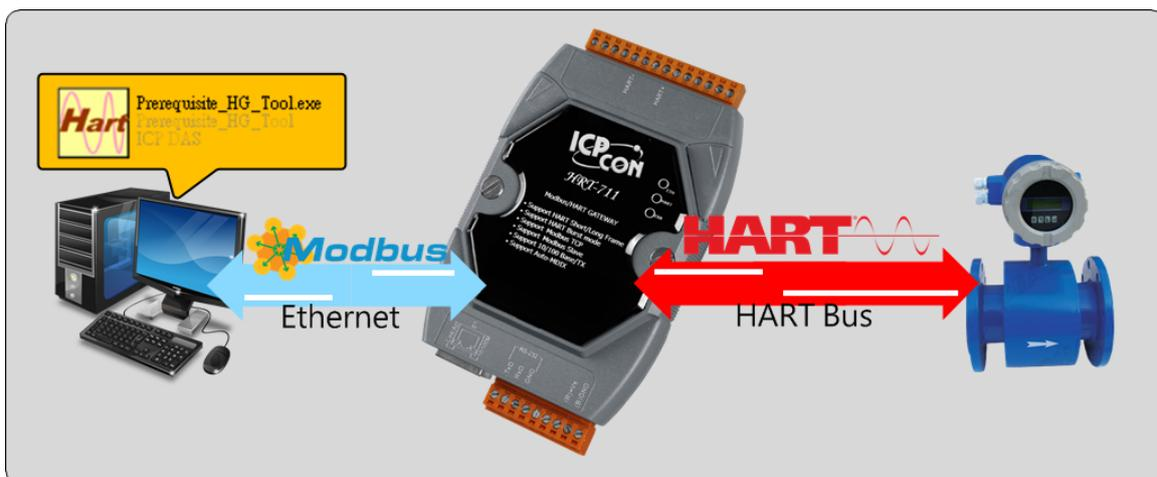

Figure 1: Application example
The quick start is used to help users quickly understand HRT-711 how to convert Modbus communication to HART. The below demo will use a HRT-711 module (as HART master), one HART slave device and one PC to make a simple application as below Figure 1. The PC is prepared for the setting and operation of HRT-711.
Step 1: Connect PC, HRT-711 and HART slave device according to figure1.